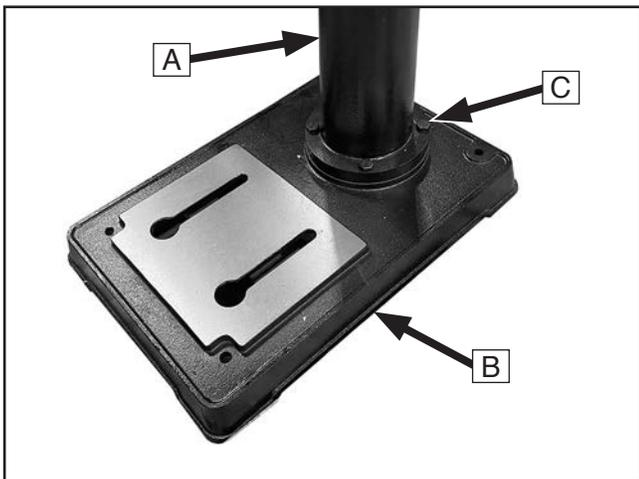

Figure 9. Column assembly attached to base (Model T34610 shown).
1. Attach the column assembly (see **A** in **Figure 9**) to the base (see **B** in **Figure 9**) with four hex bolts (see **C** in **Figure 9**). Tighten firmly.